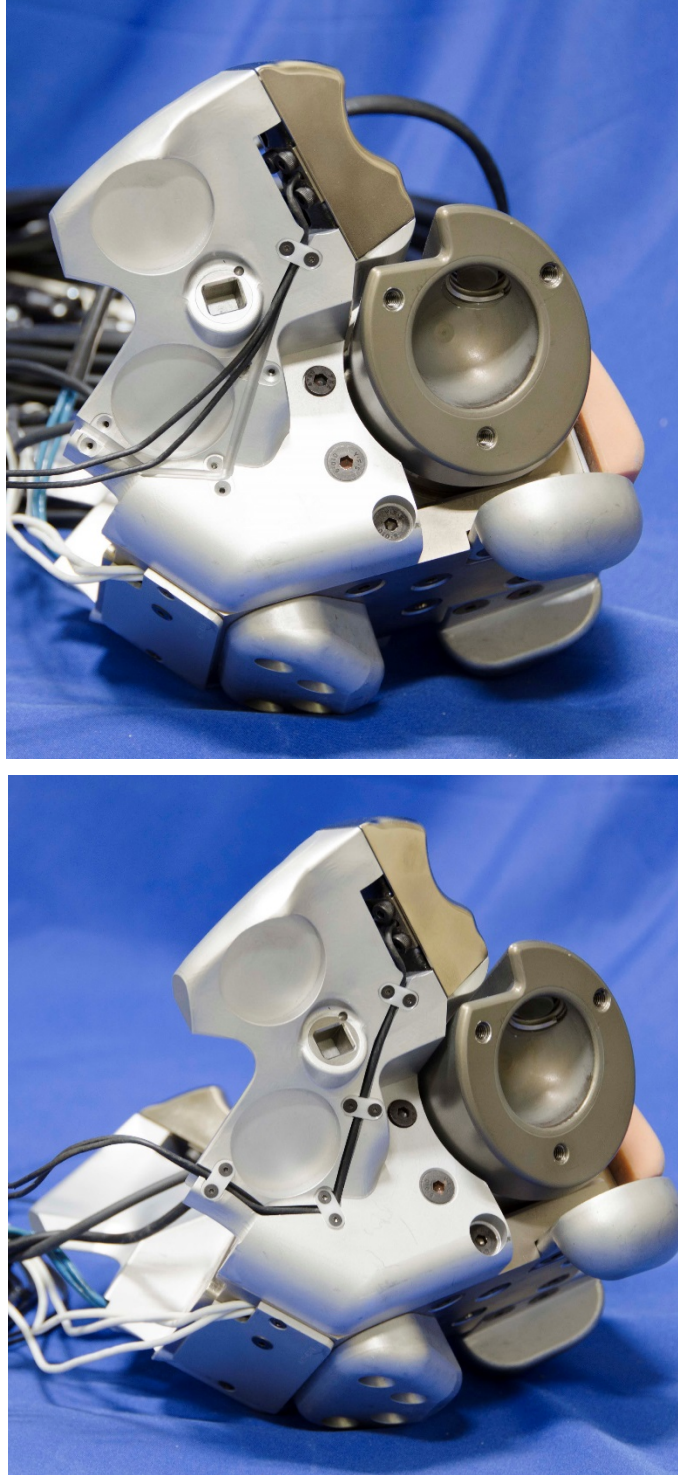
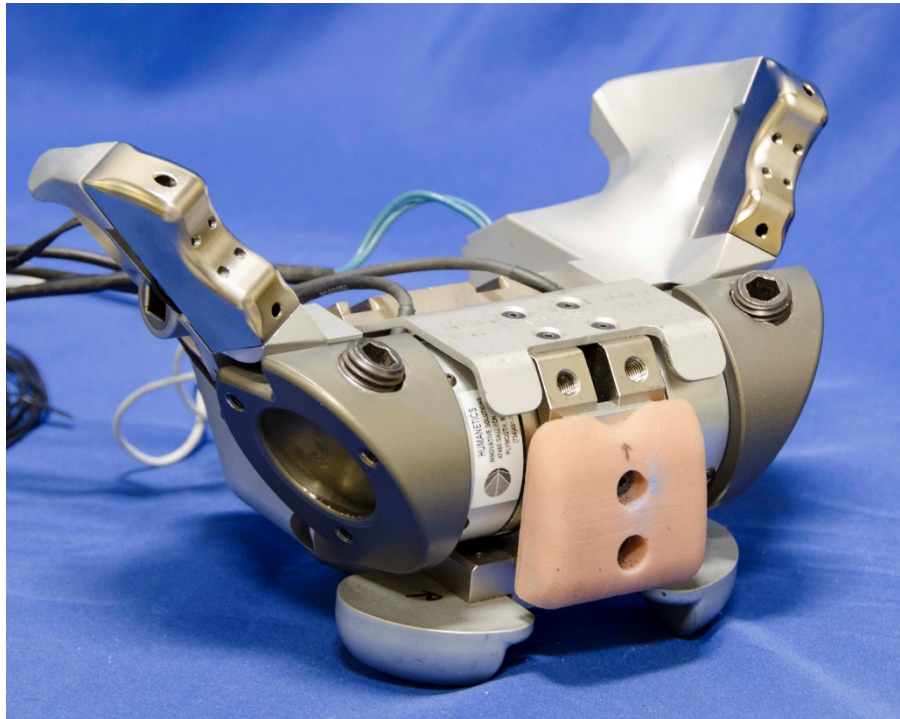
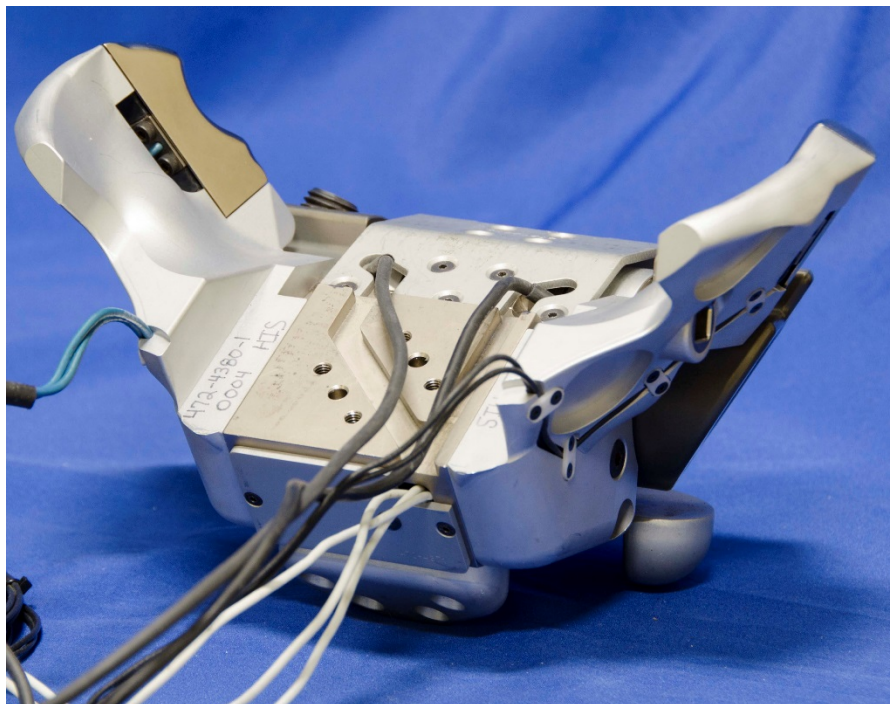

Figure 10-31. Route ASIS load cell wiring into groove on iliac wing (right side illustrated)
Figure 10-32. Complete pelvis internal structure (front view)
Figure 10-33. Complete pelvis internal structure (back view)
10.2.2.21 For each iliac wing, the wires from the ASIS load cell should be placed in the machined groove on the outside surface of the iliac wing; secure the wiring using four iliac cable covers (472-4372) and eight M2.5 x 0.45 x 5 FHCS (Figure 10-31). Figure 10-32 and Figure 10-33 show the completed internal pelvis structure.